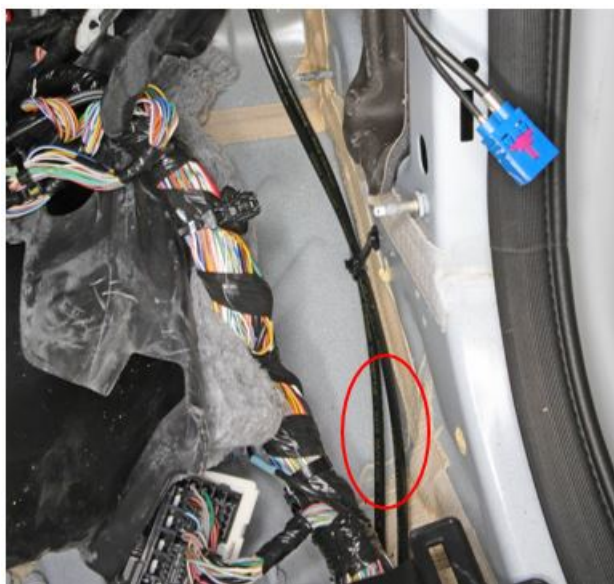

Fig. 2
12. Stagger cut the air lines rearward of the damaged area (Fig. 2) .